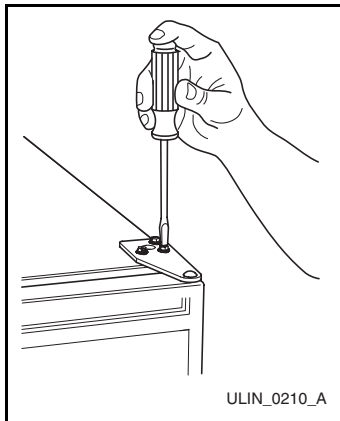

Figure 21
1. Remove top hinge from cabinet (three screws) (**Figure 21**). Hold door to keep it from falling.